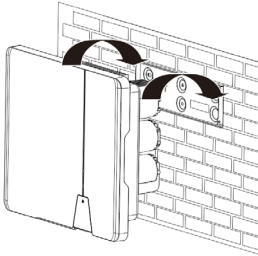
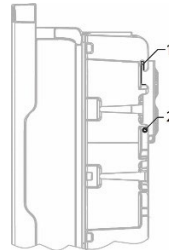

Fig. 6: Mounting the inverter to the wall bracket
Fig. 8.2: Securing the inverter
- 2 Hook the device into the mounting plate (see Fig. 6 and Fig. 8.2 – Pos 1.) and check that it is securely seated.
- 3 Mount the enclosed screws (2x M5x14mm) on both sides of the hole (Fig.8.2 – Pos 2.) to secure against lifting out.
2 Connect the DC plug connectors to the DC positive and DC negative connectors in pairs (see fig. 8.2).